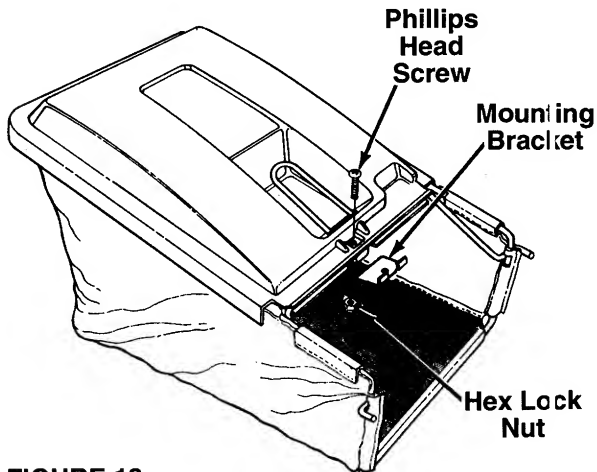

FIGURE 13.
6. Place the mounting bracket under the front of the handle, with the tabs on the bracket facing up. Insert phillips head screw down through the hardtop cover and mounting bracket. Secure with hex lock nut. See figure 13.